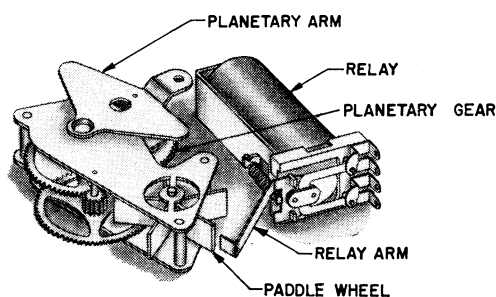

Fig. 3
Motor and Control (See Fig. 3)
The Ratchet Pawl and Wheel are used so that the Solenoid can cock the power springs without running the entire gear train in the reverse direction during the return sweep. Notice that the Ratchet also is used when the dial pointer has reached the high end of the band while tuning manually. Then the Planetary Arm has reached the end of its tuning arc and so the planetary pinion tends to be rotated by the Manual Drive Gear (see Fig. 3). This turns the Ratchet Wheel out of the Pawl and allows the pinion gear to turn freely without exerting further force on the Planetary Arm and thereby eliminates any possible damage to the mechanism.
- A. Spring driven gear train begins to sweep. (Fig. 3)
- A. Gear train stops. (Fig. 3)